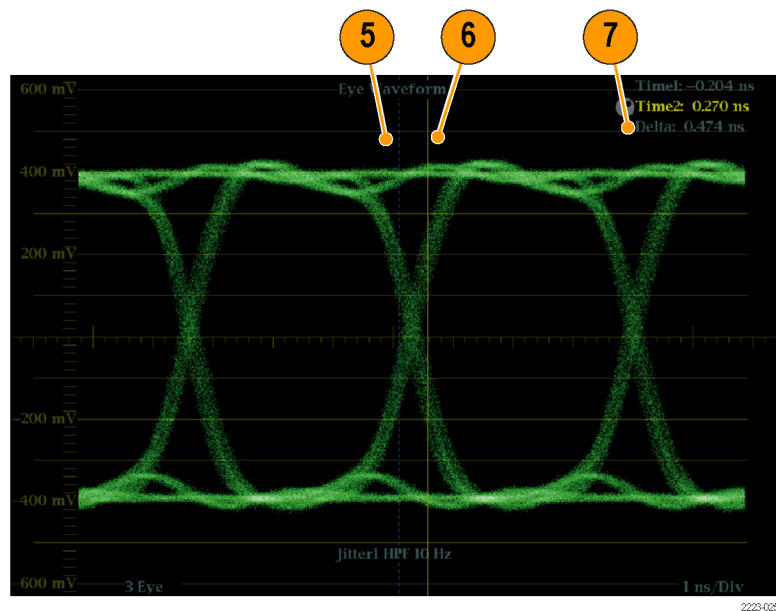

Figure 51: Measuring rise time using variable gain in Eye
5. Position the first timing cursor at the crossing of the rising edge of the Eye waveform and the graticule line two divisions above the bottom of the waveform. (See Figure 51.)
6. Position the second time cursor at the crossing of the rising edge of the Eye waveform and the graticule line two divisions below the top of the waveform. (See Figure 51.)
7. Note the 20 – 80% rise time measurement displayed in the Delta time readout. (See Figure 51.)